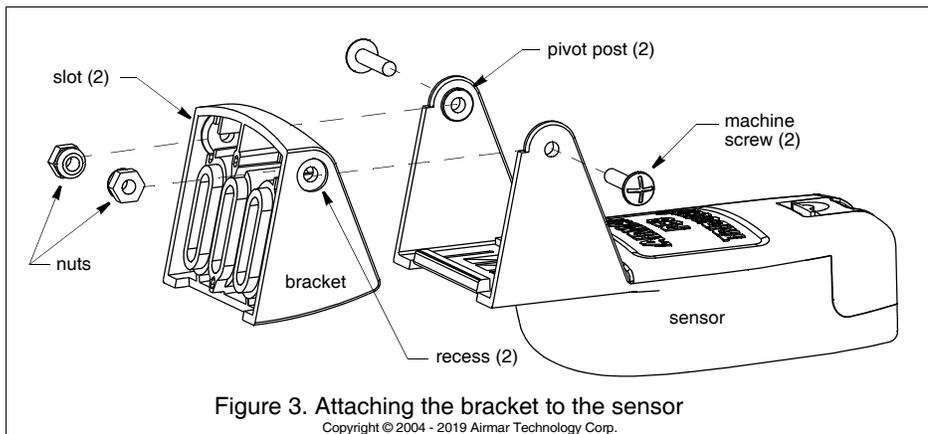
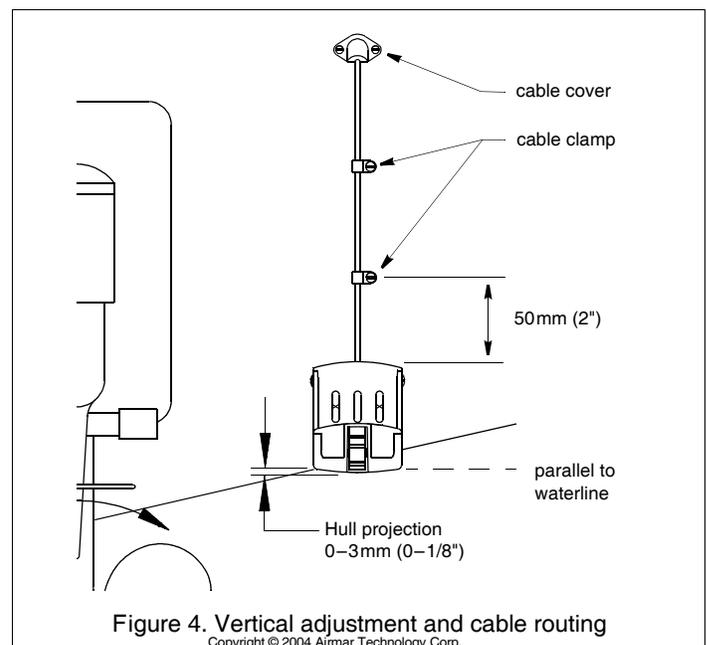

Figure 3. Attaching the bracket to the sensor
Figure 4. Vertical adjustment and cable routing
1. Insert the sensor's pivot posts into the recesses on the sides of the bracket (Figure 3).
1. At the selected location, position the sensor, so it projects 3mm (1/8") below the bottom edge of the transom (Figure 4).
1. Apply marine sealant to the threads of two, #10 x 1-1/4", self-tapping bracket screws to prevent water seepage into the transom. *Be sure the nuts are in the slots in the back of the bracket and any shim(s) is in place* (Figure 3). Screw the sensor to the hull (Figure 4). *Do not tighten the screws completely at this time.*
3. Using the vertical adjustment space in the bracket slots, slide the sensor up or down until the bottom left corner of the sensor projections 0–3mm (0–1/8") below the bottom of the hull (Figure 4). When you are satisfied with the position of the sensor, tighten the two bracket screws.
- b. Move the sensor deeper into the water in increments of 3mm (1/8") (Figure 4).
1. If a hole must be drilled through the transom, choose a location **well above the waterline** (Figure 4). Check for obstructions such as trim tabs, pumps, or wiring inside the hull. Mark the location with a pencil. Drill a hole using the appropriate size bit to accommodate the connector.